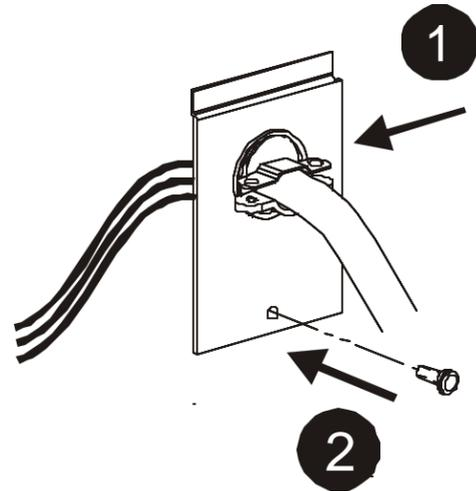

Figure 3.4 Install Conduit/Strain relief to Plate
1. Remove knock out from panel and install wiring, conduit and or strain relief (if flexible cable is used) as shown in figure 3.4.